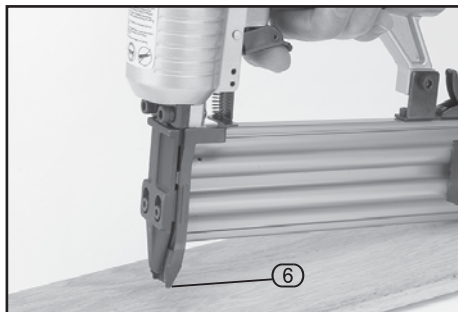

FIG.7
10.2 CHECKING THE SAFETY LEVER – FIGS. 7 - 10